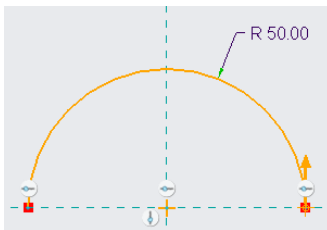

Figure 15-101 Sketch of the first arc
5. Draw an arc and dimension it, as shown in Figure 15-101.